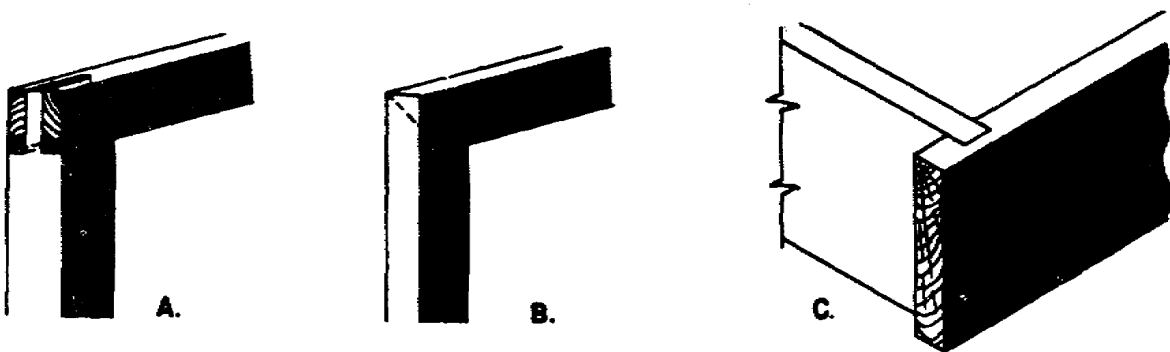

Figure 1. End-to-edge joints.
2-8. *Right-angle joints.* Right-angle joints are those in which the grain of the woods meet at right angle when they are joined. There are three types of right-angle grain joints: (1) end-to-edge joints, in which the end of one member is fitted to the edge of the other member (see fig. 1, A); (2) oblique joints, where the graining of both members is fitted end to end; and (3) end-to-face joints, where the end grain of one member is joined to the face of the other member (see fig. 1, C). The plain miter joint shown in figure 1, B, is a good example of an oblique right-angle joint.